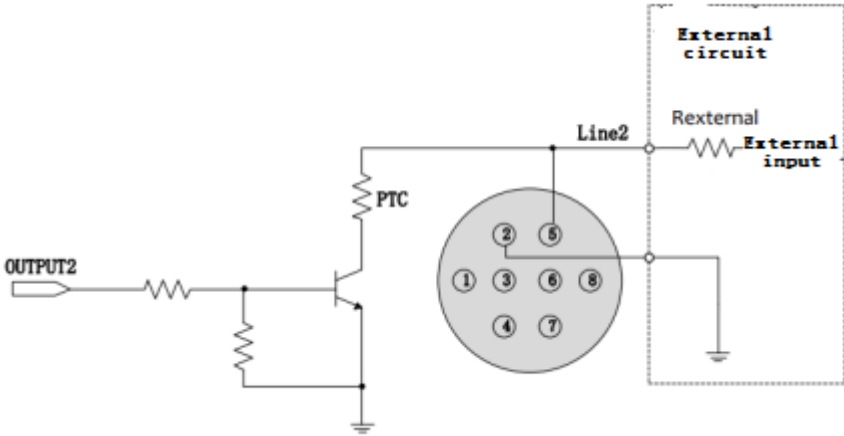

Figure 3-7 The camera's internal equivalent circuit when Line2 is configured as an output pin
- When the Line2/3 is configured as an output pin, the equivalent circuit in the camera is shown in Figure 3-7. Line2 is used as an example: